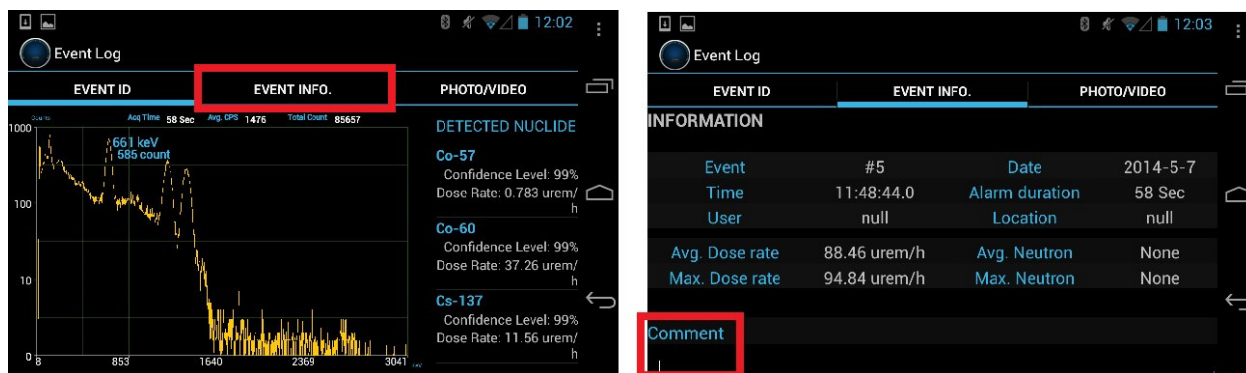

Figure 4.21. Navigating to the Comment field
2. To attach a comment, touch the **Event Info** tab to open the Event Info screen (Figure 4.21, left).
- a. Touch the blinking cursor in the Comment field at the bottom of the screen (Figure 4.21, right).